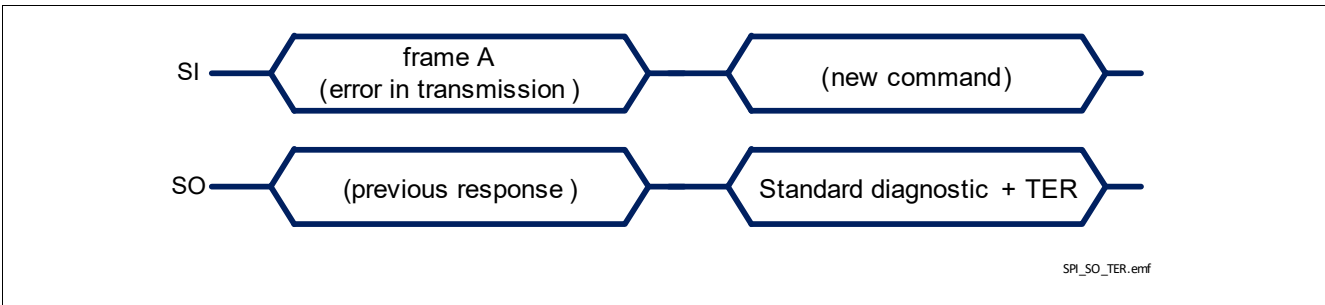

Figure 38 TLE75620-EST response after a error in transmission
- in case an error in transmission happened during the previous frame (for instance, the clock pulses were not multiple of 8 with a minimum of 16 bits), shown in **Figure 38**